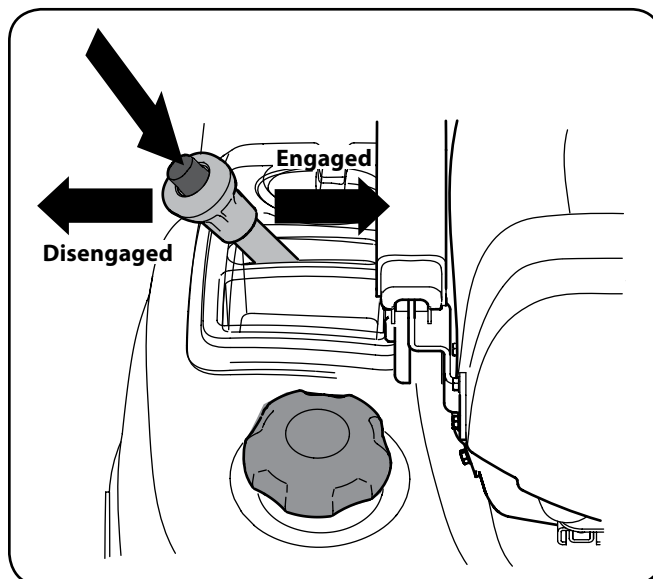

Figure 5-4
2. With the brake engaged, press down on the button on the differential lock handle and move the handle in to engage the differential lock. The indicator light on the dash will illuminate when the system is activated. See Figure 5-4.
3. To disengage the differential lock, stop the motion of the tractor, engage the brake and press down on the button and move the handle out. Release the handle to lock into place. The indicator light will go off when the system is off. See Figure 5-4.